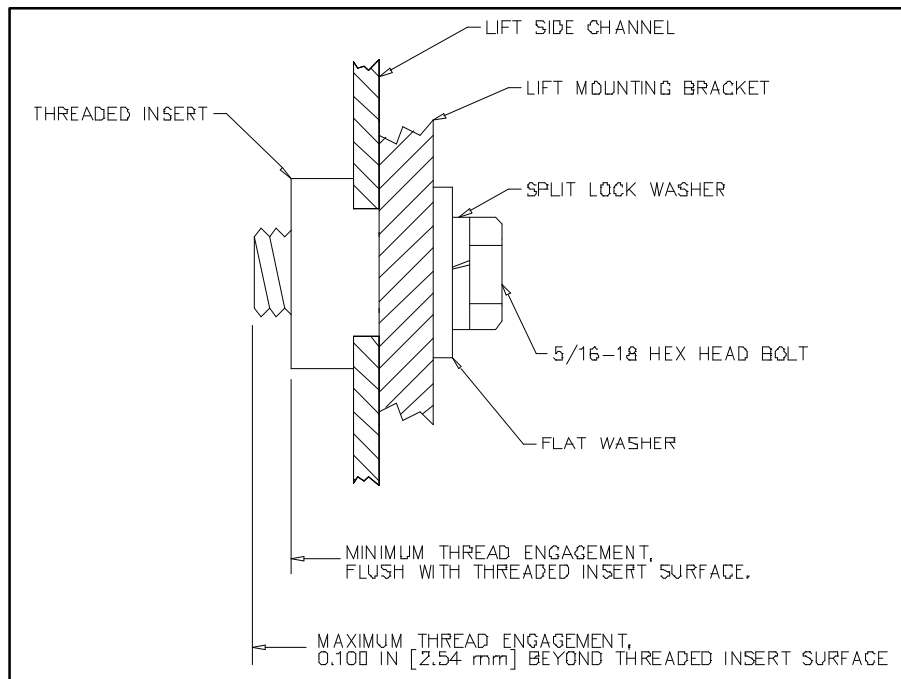

FIGURE 2-2: LIFT MOUNTING HARDWARE
- Refer to **Figure 2-2**. Use screws, washers, and lock washers provided to affix the lift. Use additional flat washers as necessary to achieve required thread engagement. Torque screws to 17 Ft-lb or 248 NM.